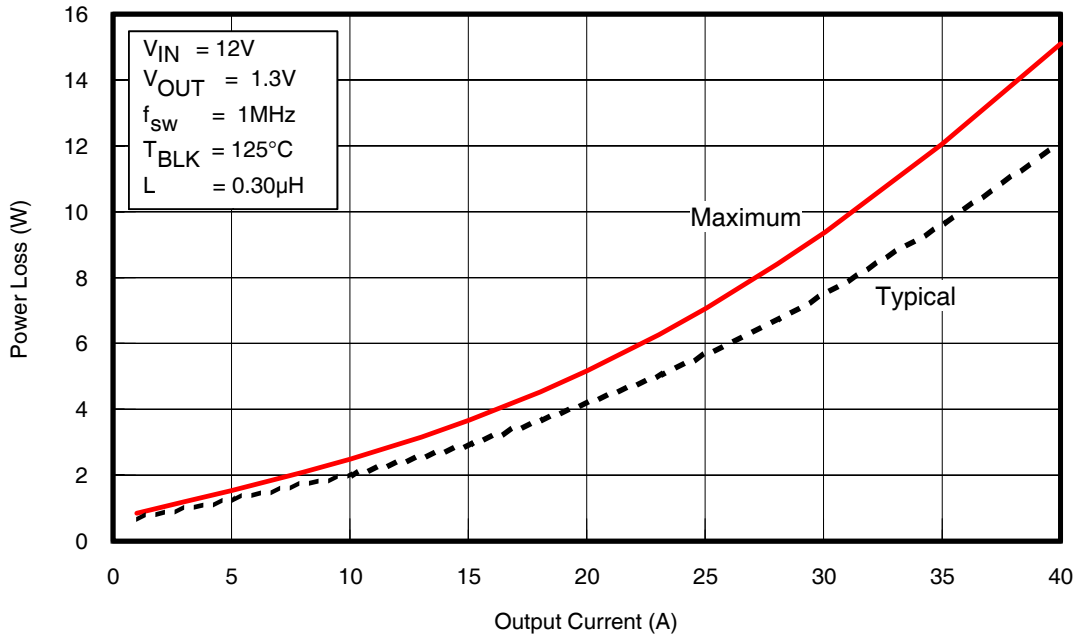
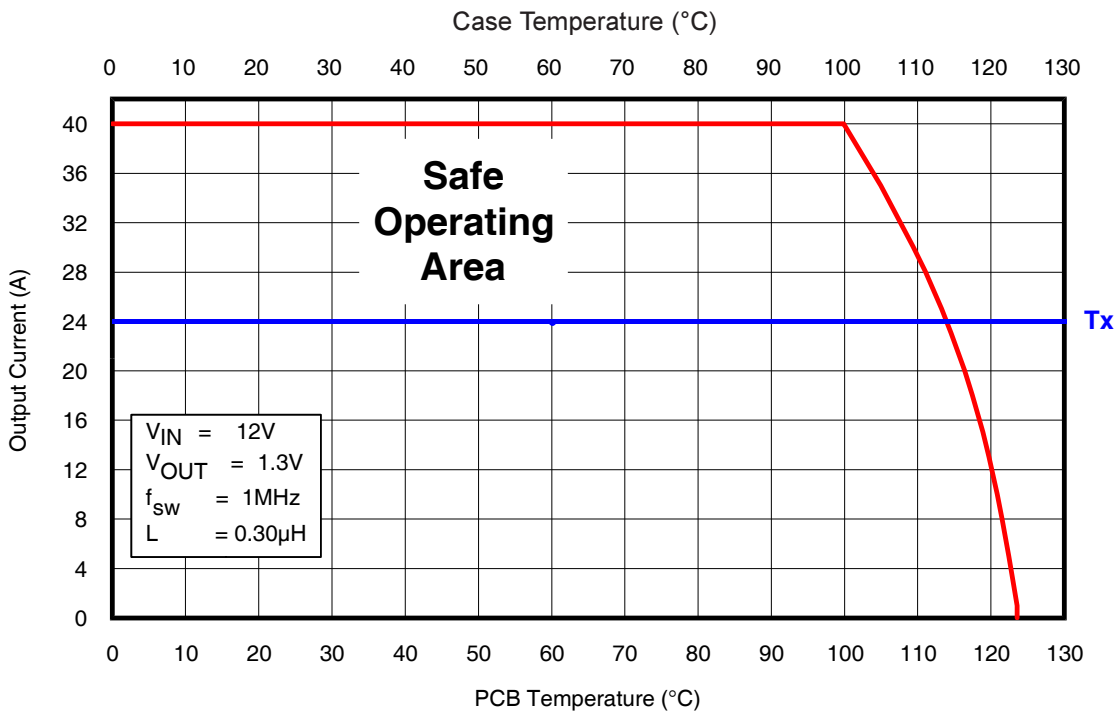
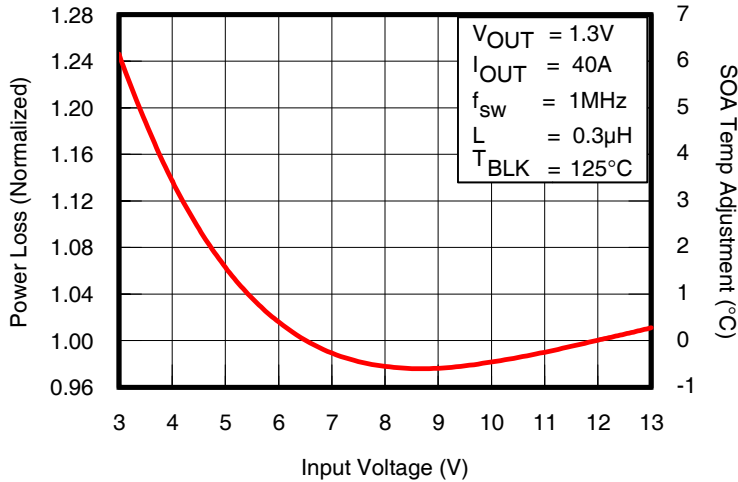

Fig. 1: Power Loss vs. Current
Fig. 2: Safe Operating Area (SOA) vs. T_{PCB} & T_{CASE}
Fig. 3: Normalized Power Loss vs. V_{IN}
To calculate power loss for a given set of operating conditions, the following procedure should be followed: Determine the maximum current for each iP2003PbF and obtain the maximum power loss from Fig 1. Use the curves in Figs. 3, 4, 5 and 6 to obtain normalized power loss values that match the operating conditions in the application. The maximum power loss under the operating conditions is then the product of the power loss from Fig. 1 and the normalized values.
To calculate the SOA for a given set of operating conditions, the following procedure should be followed: Determine the maximum PCB temperature and Case temperature at the maximum operating current of each iP2003PbF. Obtain the SOA temperature adjustments that match the operating conditions in the application from Figs. 3, 4, 5 and 6. Then, add the sum of the SOA temperature adjustments to the T_x axis intercept in Fig 2.
- (Fig. 1) Maximum power loss = 15W
- (Fig. 3) Normalized power loss for input voltage ≈ 0.98
- (Fig. 3) SOA Temperature Adjustment for input voltage $\approx -0.5^{\circ}\text{C}$